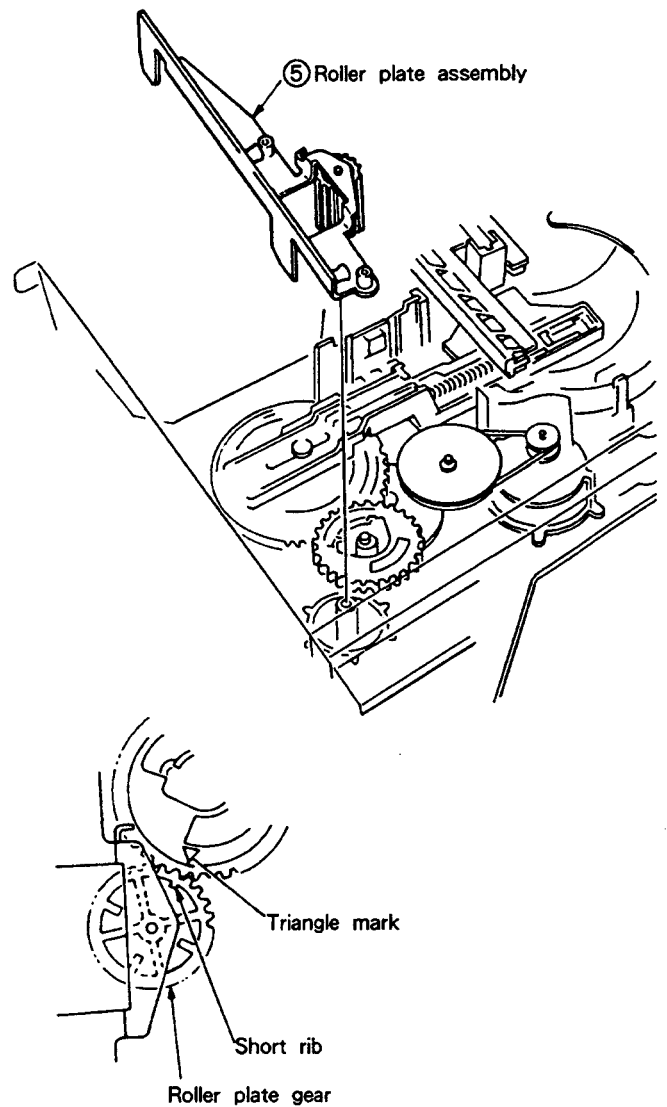

Fig. 7-16
- ⑤ Mount the roller plate assembly in the position where the tooth with the triangle mark (▼) of the follow gear is engaged with the dip of the gear with the short rib on the roller plate gear, as shown in Fig. 7-16.